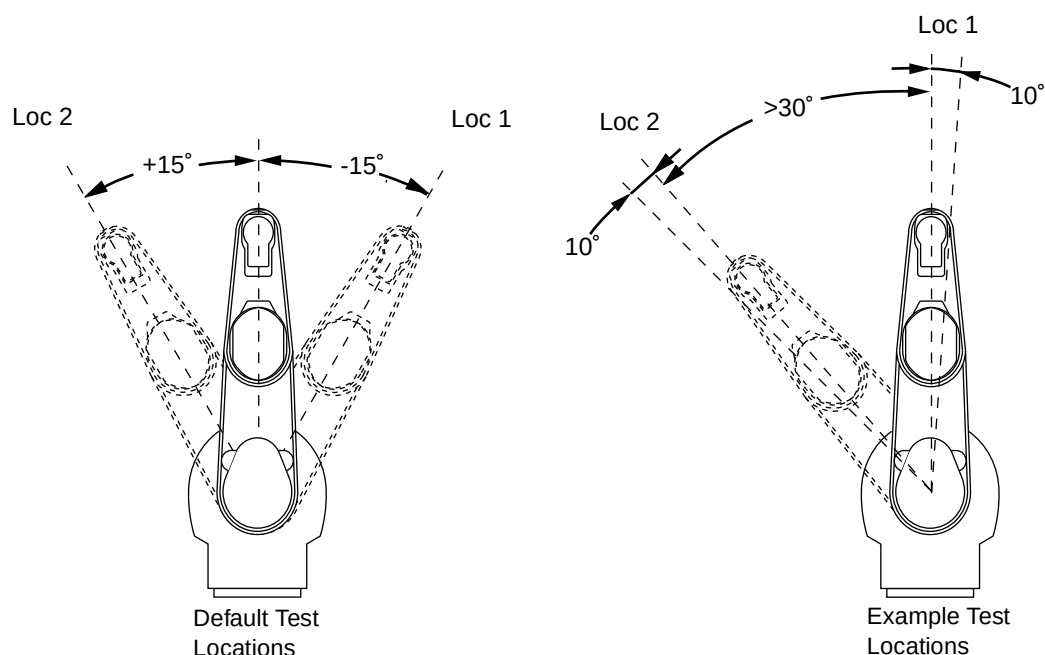

**Figure 8-1. Adept-XL Robot Test Locations**
**WARNING:** Responding Y causes the robot to move joint 1 to the positions shown in Figure 8-1. If the robot is in its workcell, make sure the robot will not contact other tooling and/or fixtures, causing damage to the robot, tooling, and/or fixtures.
Responding N allows new test locations to be defined. The test locations must be defined so that joint 1 is driven at least 30 degrees; see Figure 8-1. The robot will make a quick move during the test, causing the accelerometer to activate the E-Stop. The robot may overshoot slightly. To ensure the robot does not crash, it should be able to move 10 degrees beyond the defined locations in both directions. After the new test locations are defined, the following message is displayed: